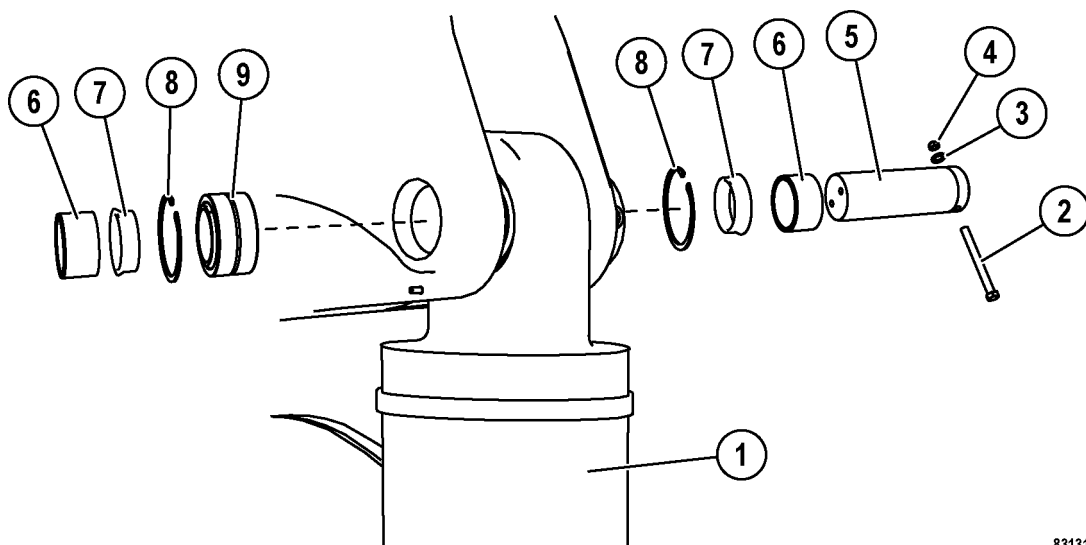

FIGURE 50-19. REAR SUSPENSION CYLINDER PIN INSTALLATION
14. Remove pin (5, Figure 50-19) from the lower mounting.